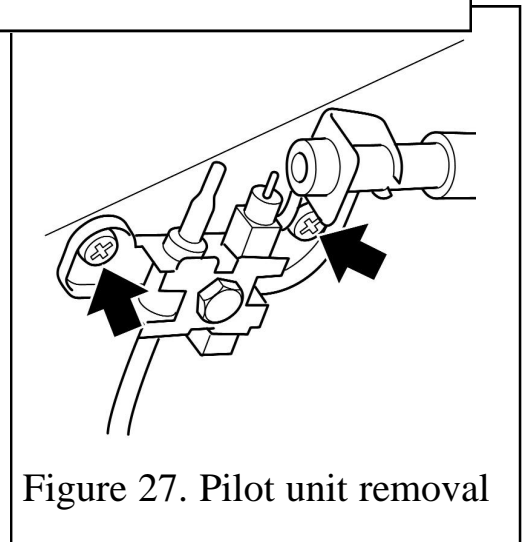

Figure 27. Pilot unit removal
6. Remove the two screws securing the pilot unit (See figure 27).